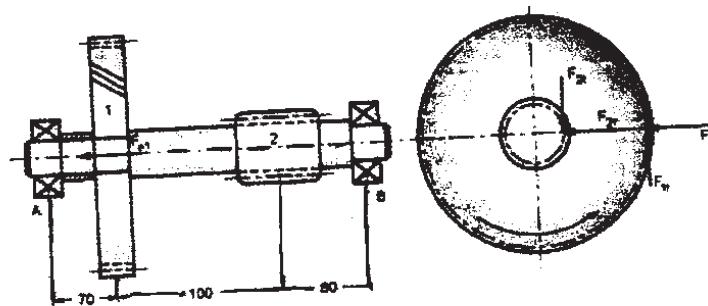

Fig.1
**Q1)** An intermediate shaft of a two stage co-axial gear box, shown in Fig.1, receives 10KW power at 288 rpm through right hand helical gear and transmits it to the output shaft through the spur pinion. The pitch circle diameters of helical gear and spur pinion are 450 mm and 108 mm respectively. The helix angle and normal pressure angle for helical gear are  $23^\circ$  and  $20^\circ$  respectively. The pressure angle for the spur pinion is  $20^\circ$ . The diameters of shaft at bearings A and B are 50 mm and 60 mm respectively. The load factor is 1.8 and the expected rating life of the bearings is 25000 hours. Select the deep groove ball bearings at A and B. The bearings are mounted such that bearing at A takes the thrust load. [16]